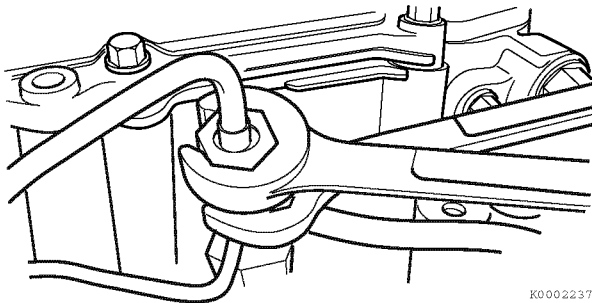

Figure 7-10
5. Next, loosen the fuel line nuts at the fuel injectors. Use one wrench to hold the fuel return line nut and fuel return line from rotating. Use a second wrench to loosen the fuel line nut (**Figure 7-10**). Repeat with the remaining fuel injectors.